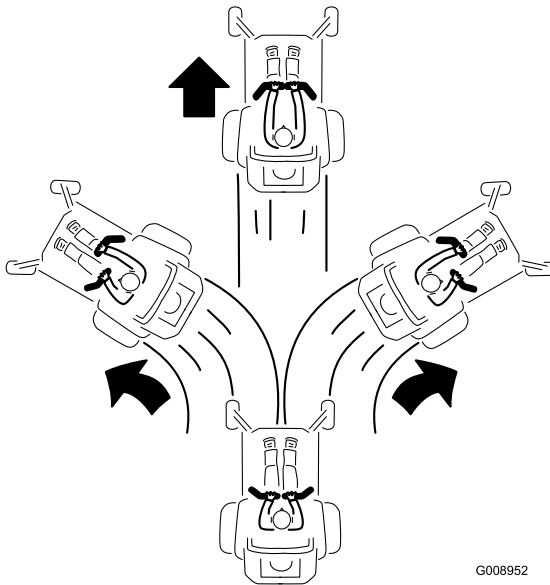

Figure 19
2. To go forward, slowly push the motion control levers forward (Figure 19).